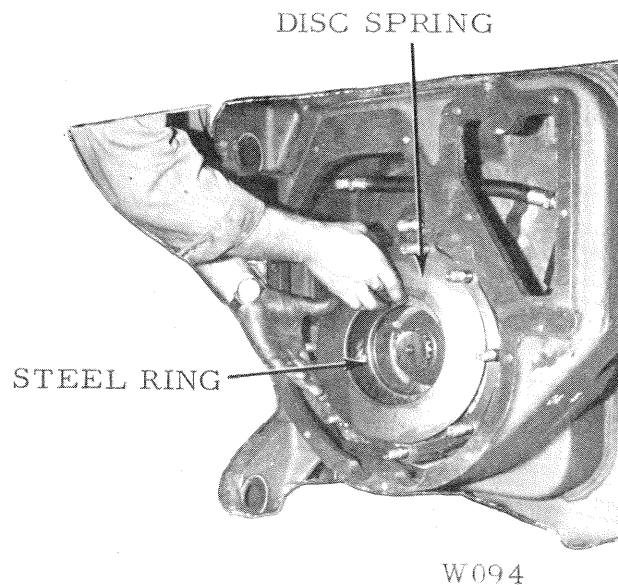

Figure 3
3. Remove the dished disc springs and steel ring. Fig. 3.